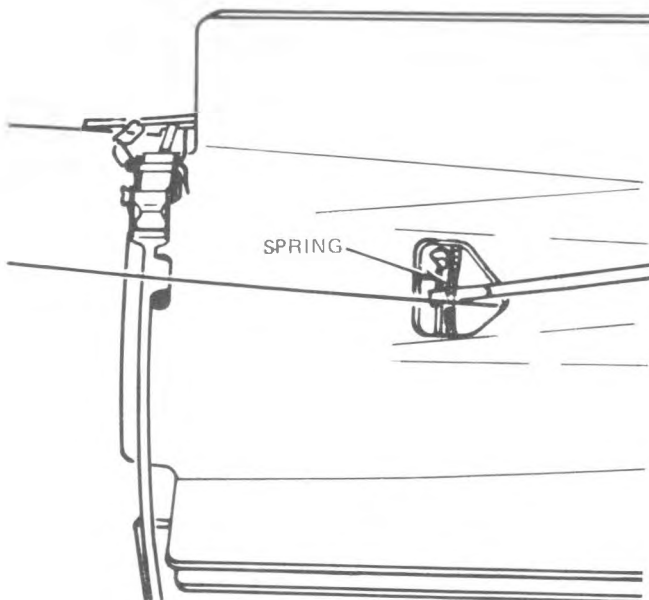

Figure 3-35. Peeling Garter Spring out of Groove with Screwdriver
16. Keeping fin pressed against aft end of bomb, peel garter spring out of its groove with screwdriver or fingers (figure 3-35), working through four access holes in fins.
8. With screwdriver, rotate keeper on retaining ring to free ears of ring (figure 3-35).
11. Keeping fin pressed against aft end of bomb and working through four access holes in fins, peel garter spring out of its groove and screwdriver or fingers (figure 3-35).